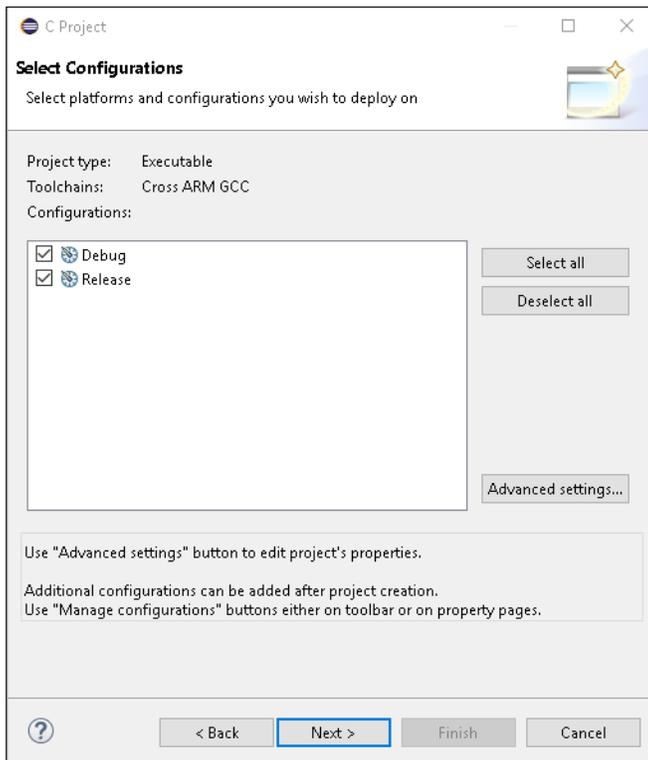

Figure 20. Select Configurations dialog box.
5. Click **Next**. The **Select Configurations** dialog box appears, as shown in **Figure 20**.